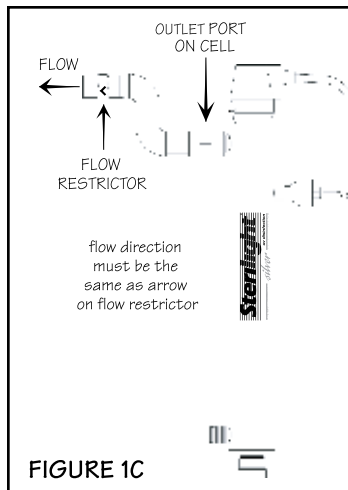

FIGURE 1C
- ⚠ 3. Mount the system to the wall using the supplied clamps. Various connection methods can be used to connect the water source to the system, however union type connectors are recommended. The use of a flow restrictor device is strongly recommended when installing your system in order to maintain the manufacturers rated flow rate. The flow restrictor should be installed on the outlet port and is designed to be installed in one direction only. Ensure that the flow of the water matches the flow direction as indicated on the flow restrictor (Figure 1C). **DO NOT SOLDER CONNECTIONS WHILE ATTACHED TO THE SYSTEM AS THIS COULD DAMAGE THE O-RING SEALS.**